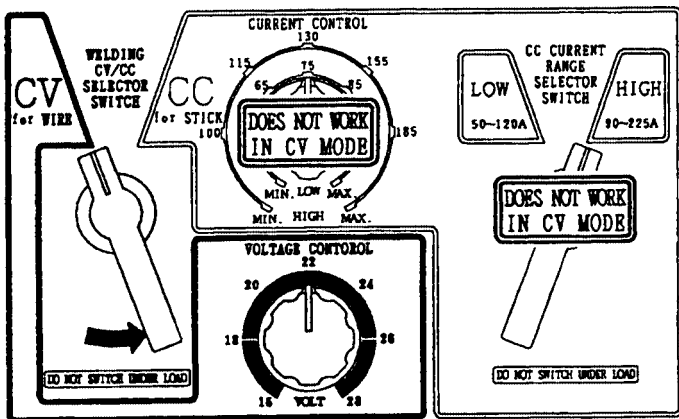

Figure 10. Welding Voltage Adjustment
1. Turn the CV/CC **Selector Switch** (Figure 10) to the **CV** position, and adjust voltage using the **Voltage Control** knob.